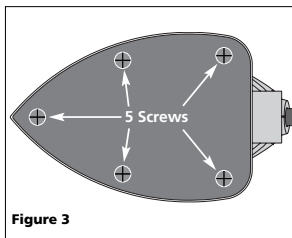

Figure 3
Unplug the tool. Remove the five (5) screws (see Figure 3) and remove pad. Insert new backing pad. Insert all five (5) screws - **DO NOT OVERTIGHTEN.**